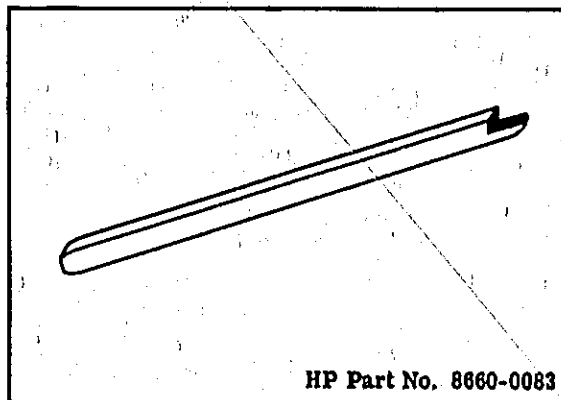

Figure 5-2. Abrasive Stick
- Clean gold plated contact using a Contact Bur- nishing Tool (HP Part No. 8660-008*, see Figure 5-2 ABRASIVE-STICK).
- Clean contacts as shown in Figure 5-4, using Abrasive Stick (HP Part No. 8660-0083, see Figure 5-2).